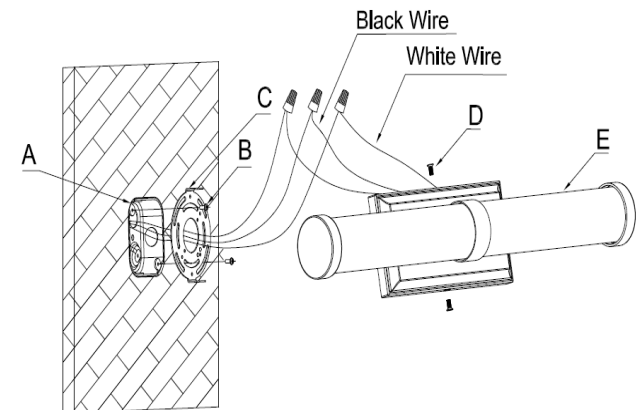

Fig.2
## CONNECTING THE WIRES (FIG. 2)
5. At this point, connect the electrical wires as shown in Fig. 2, making sure that all wire connectors are secured. If your outlet has a ground wire (green or bare copper), connect the fixtures ground wire to it. Otherwise, connect the fixture ground wire directly to the mounting plate (C) using the green screw provided. After wires are connected, tuck them carefully inside the junction box.